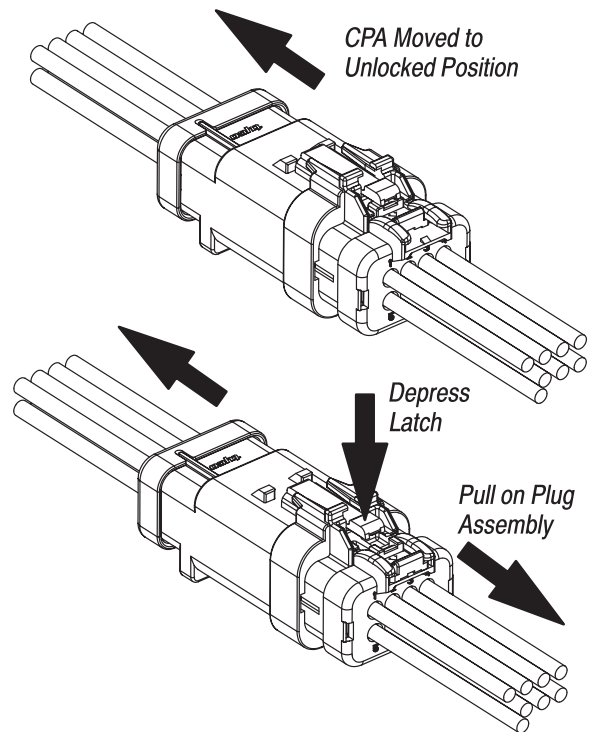

Figure 9
2. Simultaneously depress the end of the connector latch and pull on the rear of the plug assembly to separate the mated connector assembly. See Figure 9.